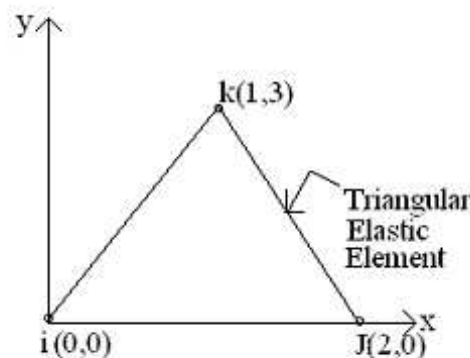

Figure 8
3. Calculate the element stiffness matrix and the thermal force vector for the plane stress element as shown in figure 8. The element experiences a  $10^0$  c increase in temperature.